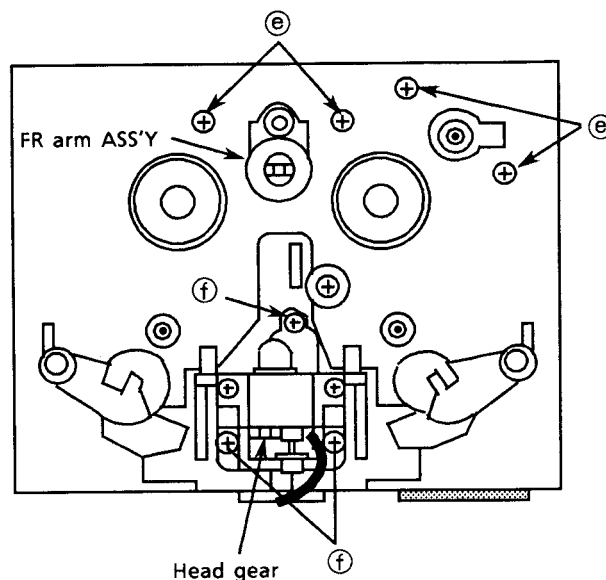

Fig 21
3. Remove the 3 screws ① fixing the head assembly (Fig 21).